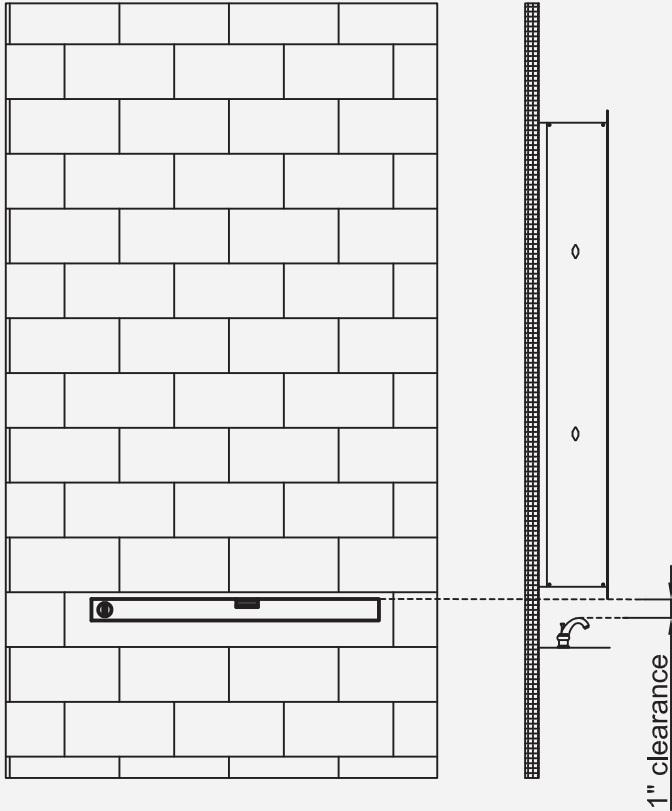

Fig 6
1. Establish precise height and draw a level horizontal line (Fig 6). **IMPORTANT:** Detect medicine cabinet at precise height. Make sure there is at least 1" of clearance above any obstructions.